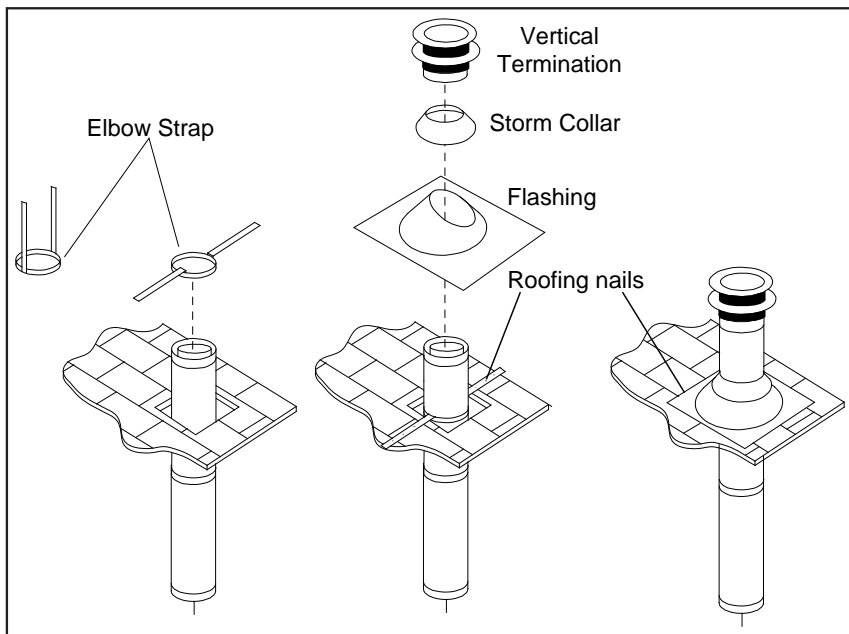

Figure 32. Vertical Vent Termination
Step 3. To install the Round Support Box/Wall Thimble in a flat ceiling, cut a **10" (25.4 cm)** square hole in the ceiling, centered in the hole drilled in Step 2. Frame the hole as shown in Figure 32.
- Step 6.** Once the pipe sections have been joined, and run up through the hole in the roof, slip an elbow strap over the exposed sections, bend the support straps outwards, and push the elbow strap down to the roof level, as shown in Figure 32. Tighten the clamp around the pipe section. Use a level to make sure the pipe is truly vertical. With roofing nails, secure the support straps to the roof. Seal the nails holes heads with non-hardening mastic. Trim the excess length of the support straps that extend out beyond the edge of the flashing.
- Step 9.** Slip the storm collar over the pipe, and push it down to the top of the roof flashing as shown in Figure 32. Use the non-hardening sealant around the joint between the pipe and the storm collar.